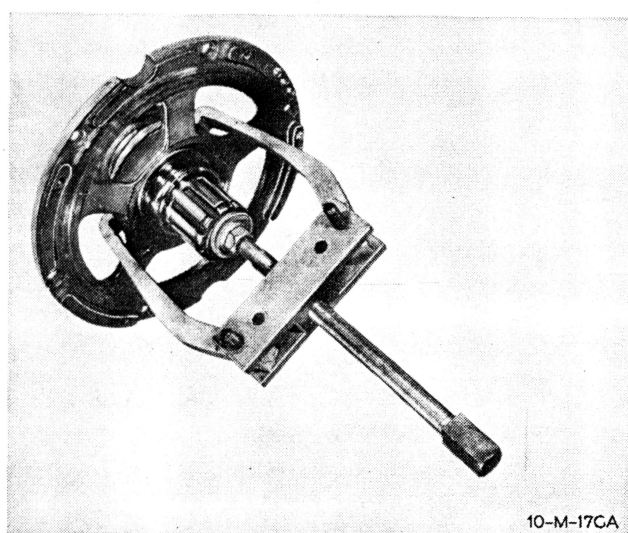

Fig. 139
3. With gear puller, remove mainshaft outboard support. Fig. 139.